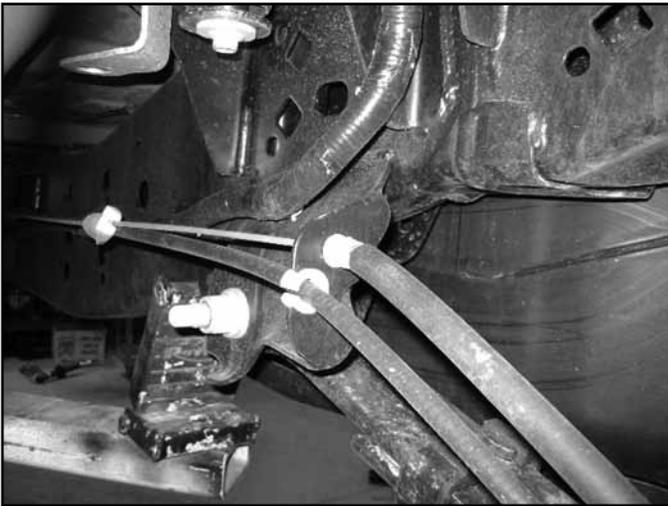

Fig 32
5. Compress the retaining tabs and remove the driver's side cable from the spring hanger (Fig 32). It will be relocated and reconnected later.